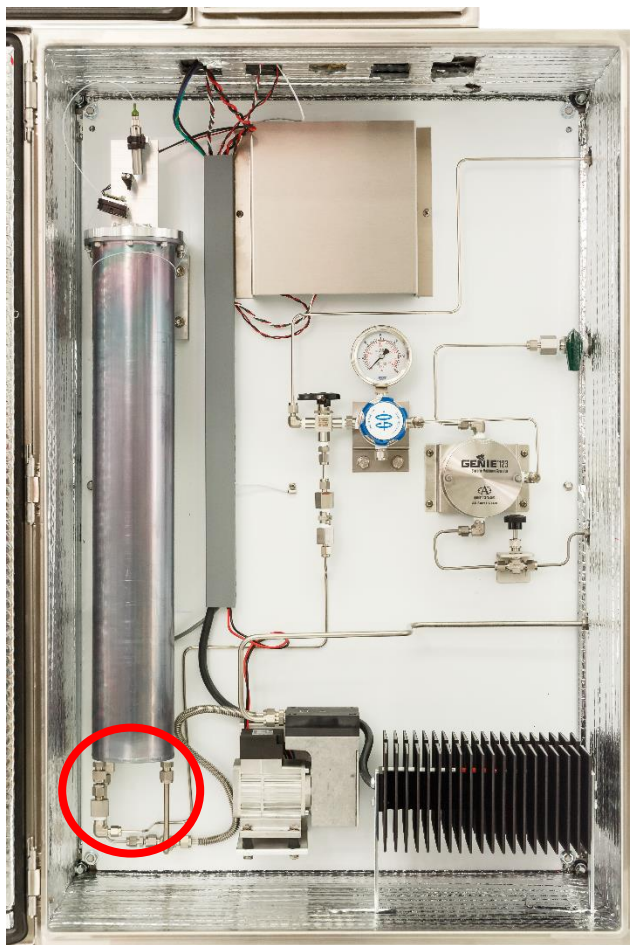

Figure 61: Locating of Fittings Connected to the Herriott Cell
2. Locate the fittings connecting the Herriott cell to the rest of the analyzer as indicated in Figure 61.